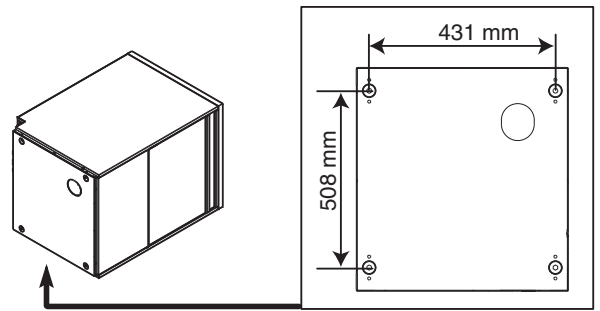

Figure 7
- Make 4 holes \varnothing 9 mm on the support respecting the distances shown in Figure 7.